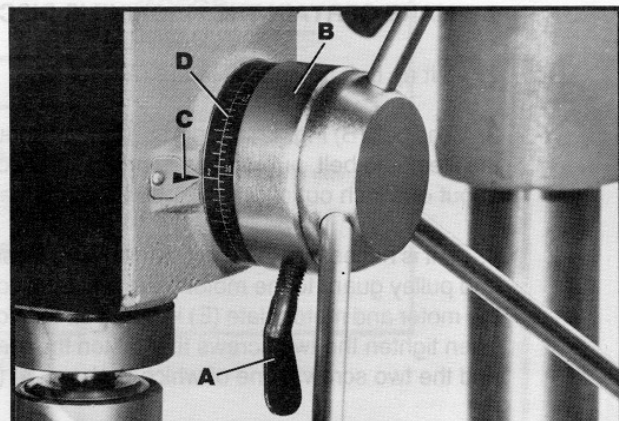

Fig. 21
1. Loosen lock screw (A) Fig. 21, and rotate housing (B) until the pointer (C) lines up with the desired depth indicated on the scale (D). Then tighten lock screw (A).
2. All holes will then be drilled to the exact depth as indicated on scale (D) Fig. 21. **NOTE:** Scale (D) is calibrated in both inches and metric.
3. On operations where it is necessary to lock the spindle in the down position, such as for sanding or routing, lower the spindle to the desired depth. Loosen lock screw (A) Fig. 21, and rotate housing (B) clockwise as far as possible and tighten lock screw (A). The spindle will then be locked in the down position